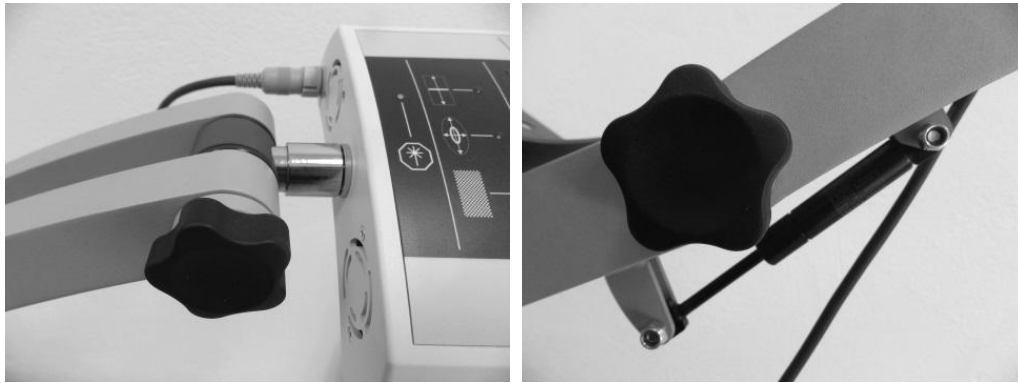

Figure 6-5 Handwheels – scanner and arm of the stand
- It is recommended to loosen or turn (depend on need) handwheel locking the arm of the stand or handwheel locking the laser scanner to adjust the right scanner position. Both handwheels are presented in Figure 6-5.